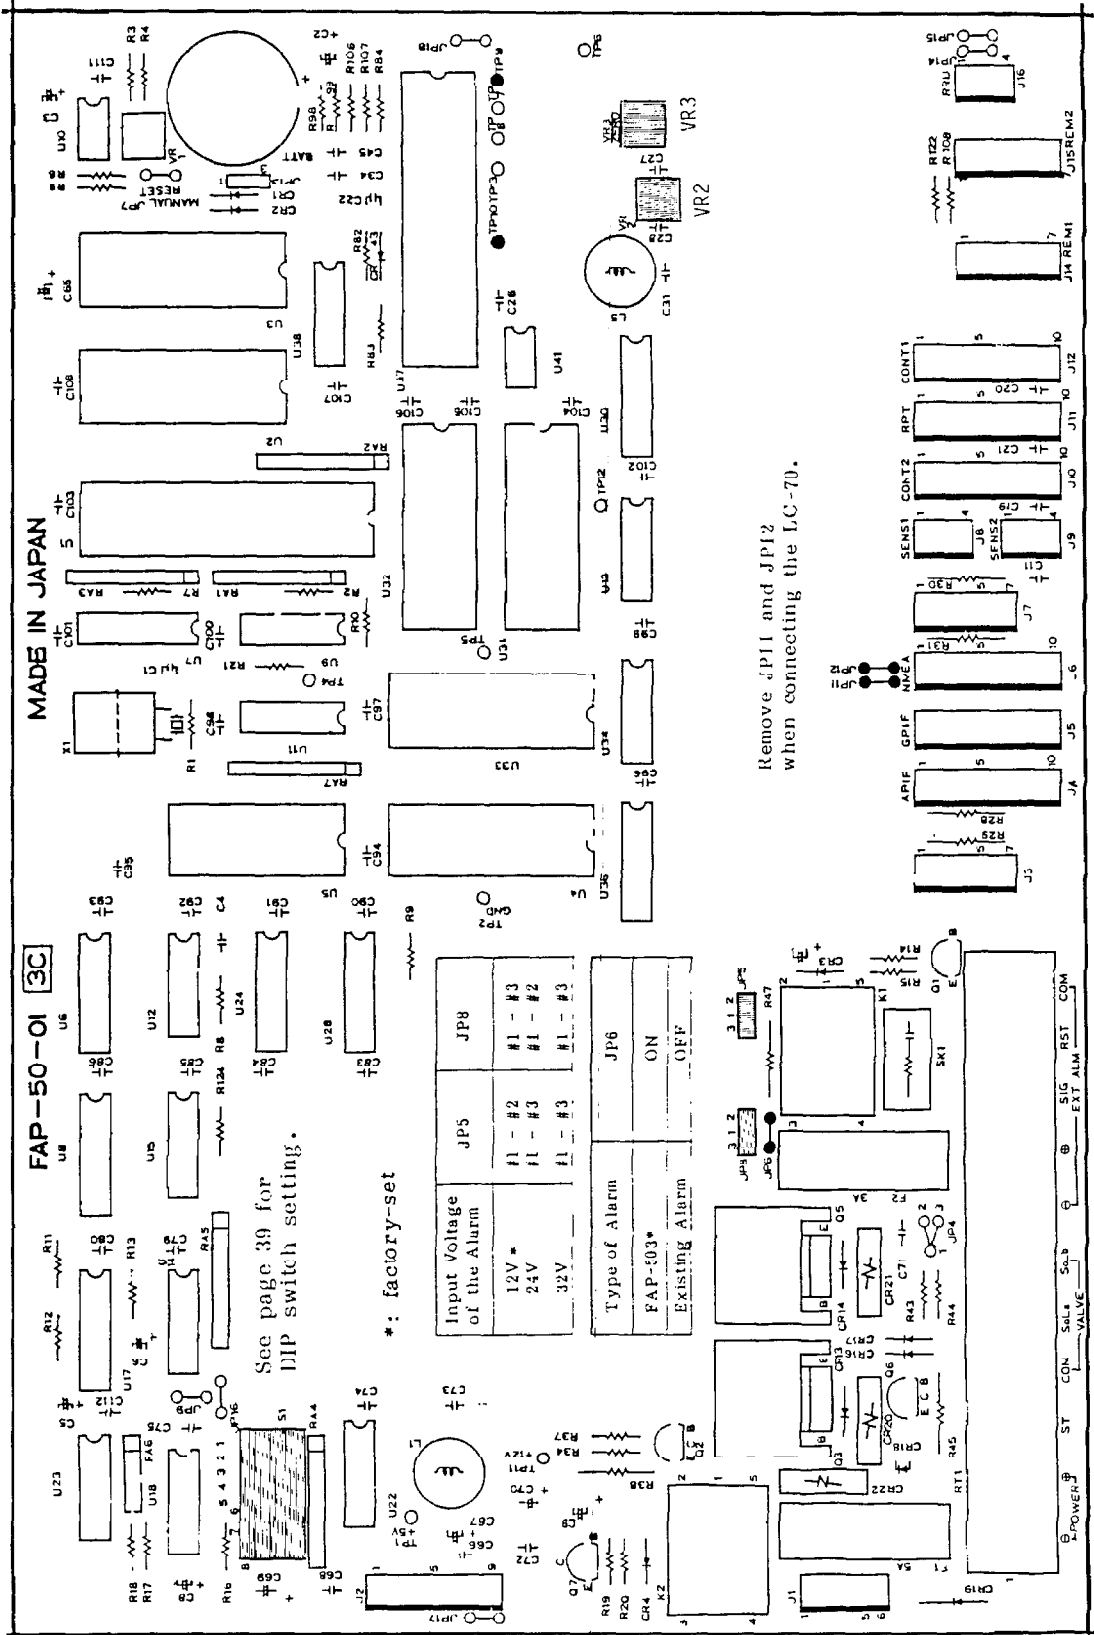

Fig.25 Processor Board, Parts Side - The location of the parts have been changed, but the board is electrically the same as the old one.
Items 1 thru 5 are carried out on the processor unit and item 6 on the control unit. See Fig.25 for the location of the parts.